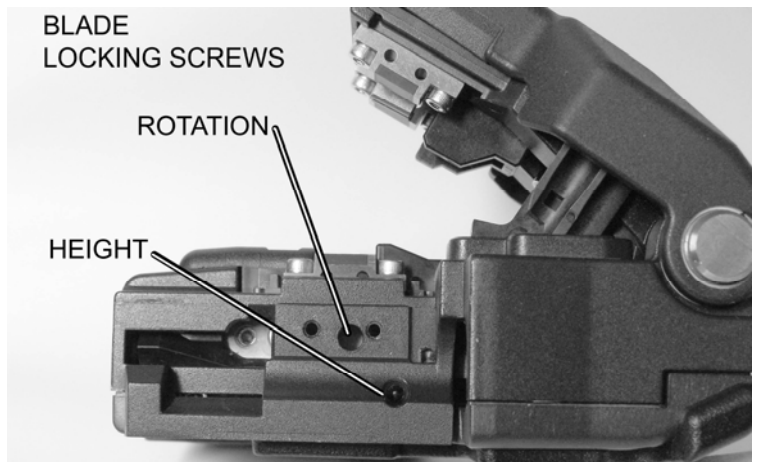

Fig. 4: Blade locking screws.
The blade locking screws are now exposed (Fig. 4).
2. Loosen the rotation locking screw 1 1/2 revolutions (Fig. 4).
2. Loosen the locking screw for blade height (Fig. 4). If you cannot see the screw, make sure that slide button is in the out (unlocked) position per step 1.